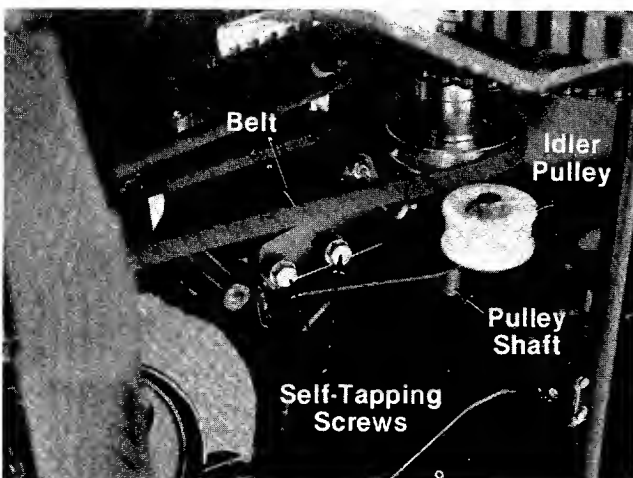

FIGURE 27.
7. Remove the two self-tapping screws which hold the support bracket and idler bracket to the deck. See figure 27. A 7/16" wrench is required.
8. Slide the support bracket and idler bracket (with idler pulley attached) off pulley shaft. See figures 27 and 28.